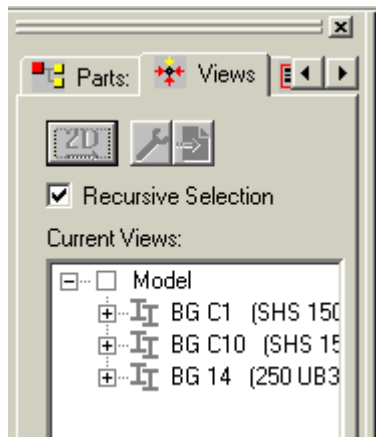

Fig. 18
6. The best way to edit a detail style is to first drag a current part from the “*Current Parts*” window onto the detail style in the “*Current DetailStyles*” window. Once this has been completed click the “*Views*” TAB and the part should show up in the window “*Current Views*”. See Fig. 18
14. To carry on with the process you must first close your Preview. Then you drag your part from “*Current Views*” onto the 2D button. See Fig. 18. You should see it creating the views by a series of numbers flashing on the screen next to the button. Don’t worry if you can’t see them.